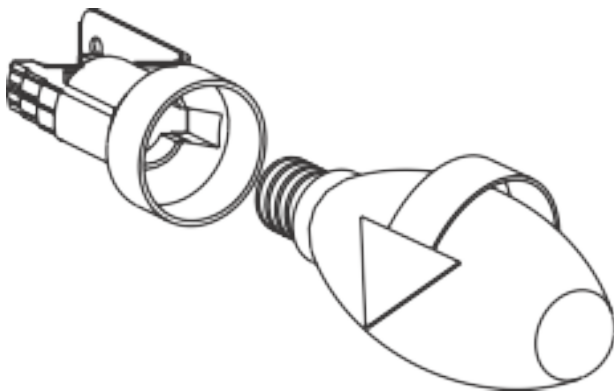

Fig.18: Lamp Replacement
2. Remove the faulty bulb and replace with a new one with the same rating. (Fig. 18)